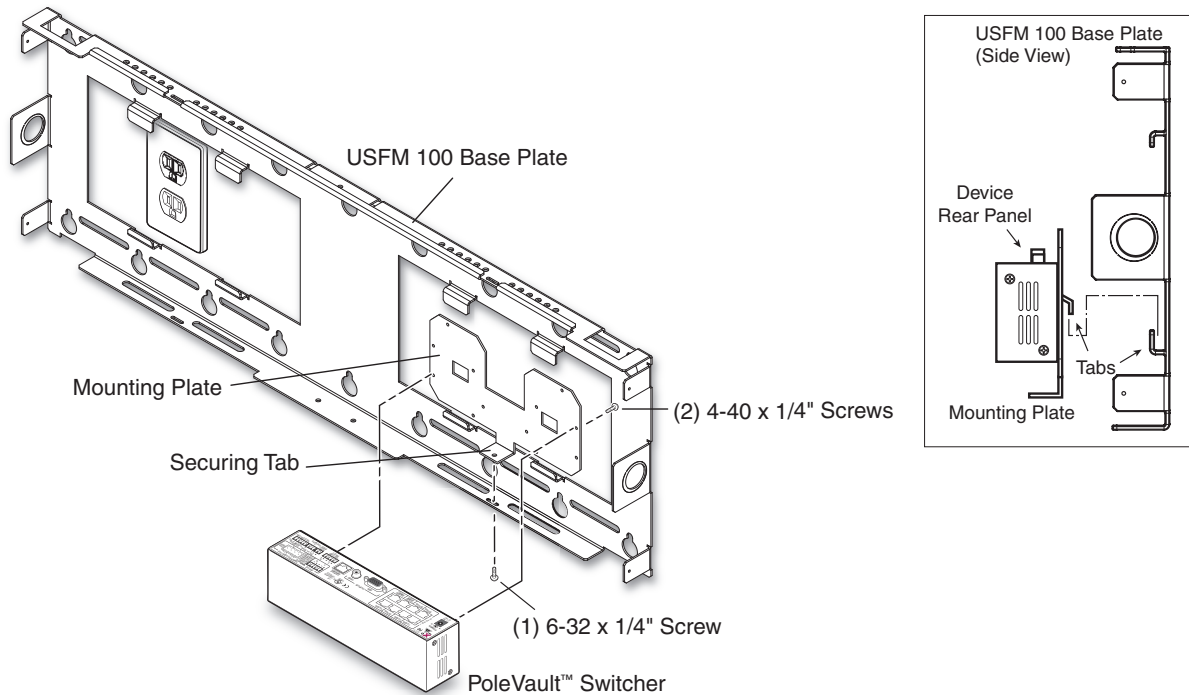

Figure 4. Attach Switcher to Mounting Plate and Secure to Base Plate
- Secure the mounting plate (and switcher) to the base plate by aligning the two small tabs on the back of the mounting plate over the corresponding tabs on the base plate (see figure 4, inset). Slide the mounting plate (and switcher) down into place. Secure it to the base plate by passing a 6-32x1/4 inch screw up through the securing tab (see figure 4). Tighten down the screw.
NOTE: Mount the switcher with the rear panel uppermost for ease of cable connection (see figure 4).